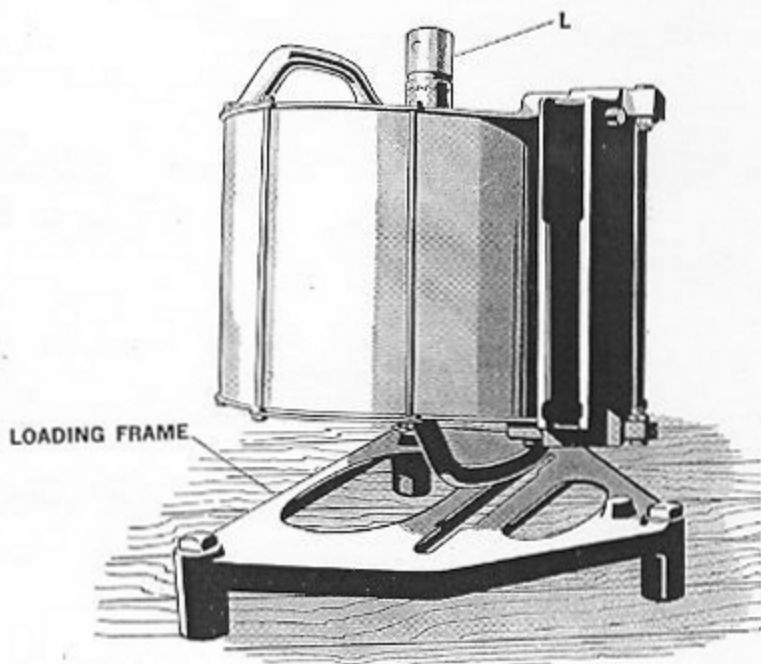
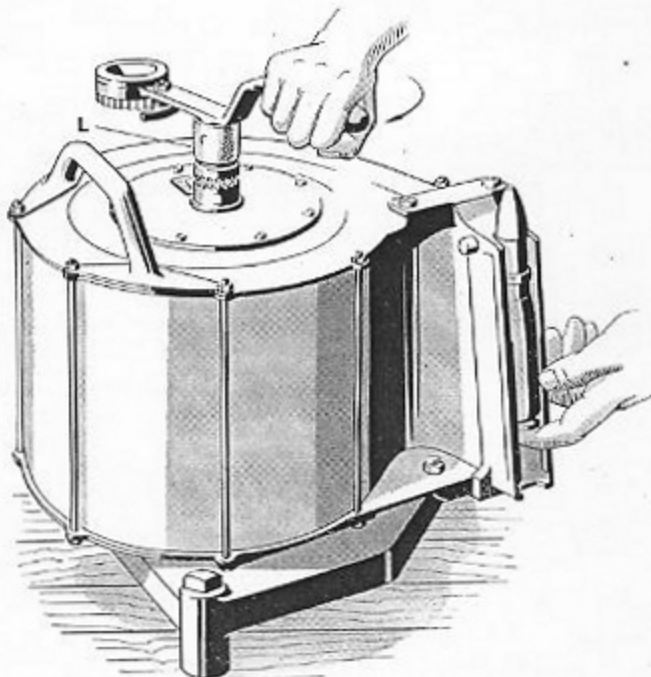

Figure 48—Placing magazine in loading frame, coupling (L) down
Figure 63—Unloading a partly tensioned magazine
The magazine consists of a cylindrical drum containing 60 rounds of ammunition that are driven around spirals, see A, B, C and D, Figure 48, inside the drum, by a clock spring (E) that is hand wound from outside the magazine. The tension of the spring can be adjusted.
1. Place magazine in the loading frame (OE-1591) as shown in Figure 48.
1. Place the magazine in the loading frame in the same manner as when loading. See Figure 48. Place loading lever in the spring tensioning axis as shown in Figure 63.
It is advisable to relieve the spring tension by using Steps 1, 2, 3, 4 and 5, Page 72, and then unload the cartridges as instructed above. See Figure 63.